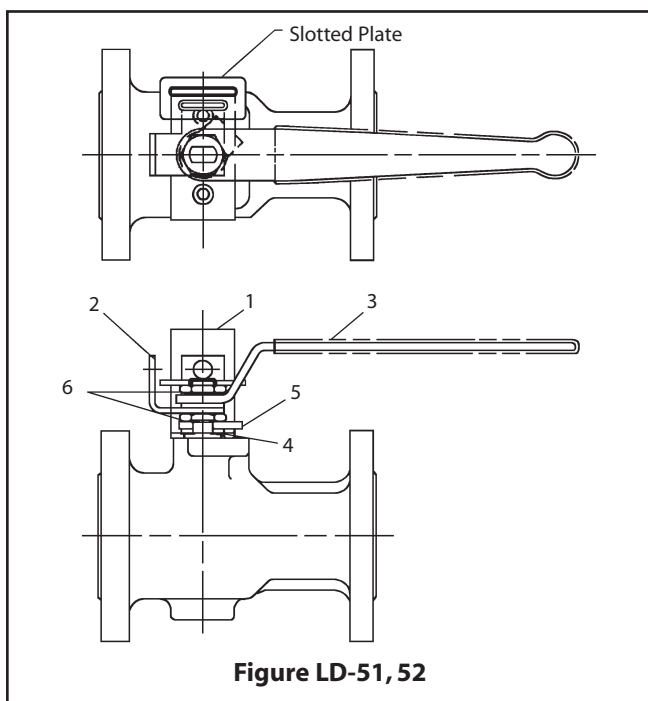

Figure LD-51, 52
3. (See Figure LD-51, 52) Place the locking frame from kit (1) on the valve bonnet pad and reinstall the two stop screws from 2 above. From the kit, install compression ring (4), indicator stop (5), and packing nut (6). The packing nut is to be wrench tightened 1/8 to 1/4 turn. Lift up floating slotted support plate mounted to the locking frame (1). Place the locking tab (2) onto the stem. Let the floating slotted plate drop down on the tab. Mount the handle (3) from the kit, the lockwasher from existing valve, and the handle nut (6) from the kit.